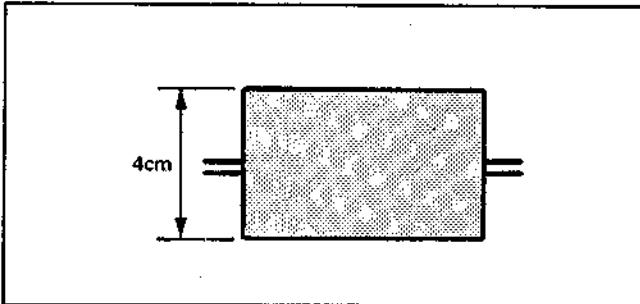

Fig. 2-11 No. 2 Guide Waveform
- Turn No. 2 guide adjustment nut clockwise so that the RF output waveform entrance side is 4cm as shown in Fig. 2-11.